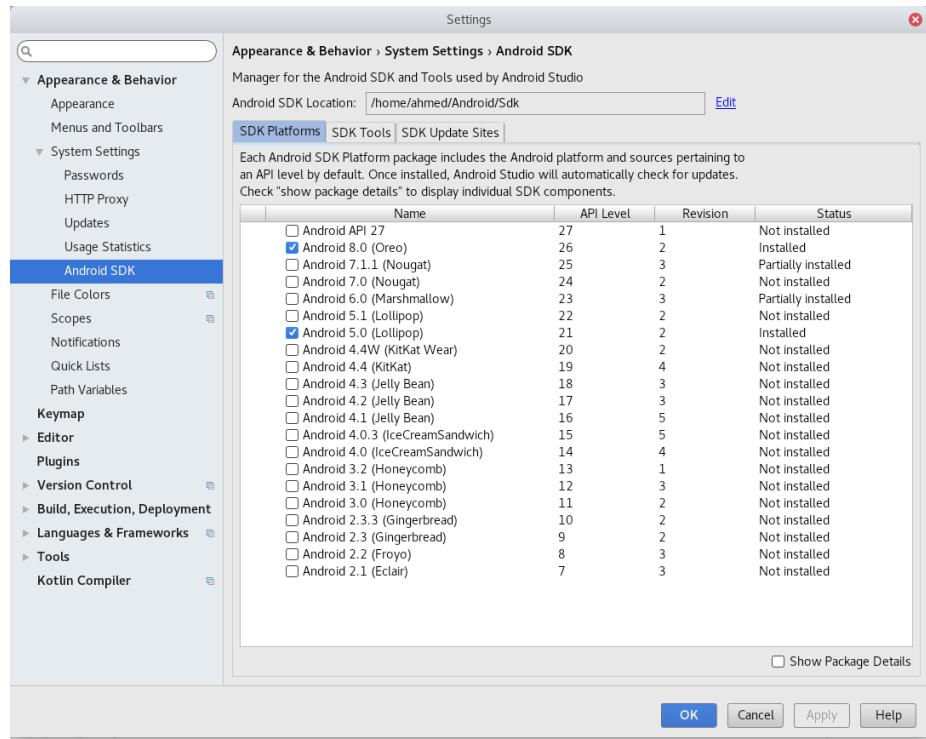

Figure 19: Android Studio and SDK setup
2. Download the SDK versions 21 and 26 as the min. and max. APIs for the application to build from **File > Settings > Appearance & Behavior > System Settings > Android SDK** and mark the required APIs (check Fig.19).